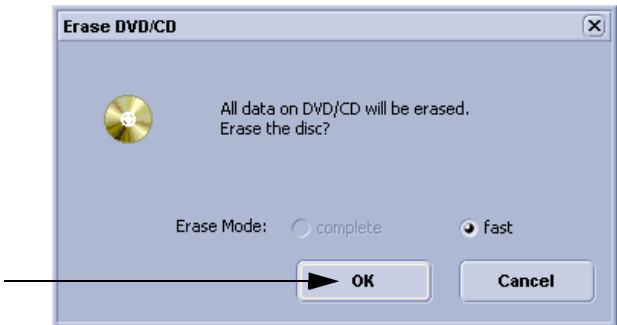

Figure 4-9 Erase DVD/CD Window
- 4.) Click the ERASE CD button to displays the “Erase DVD/CD” window as shown in Figure 4-9.